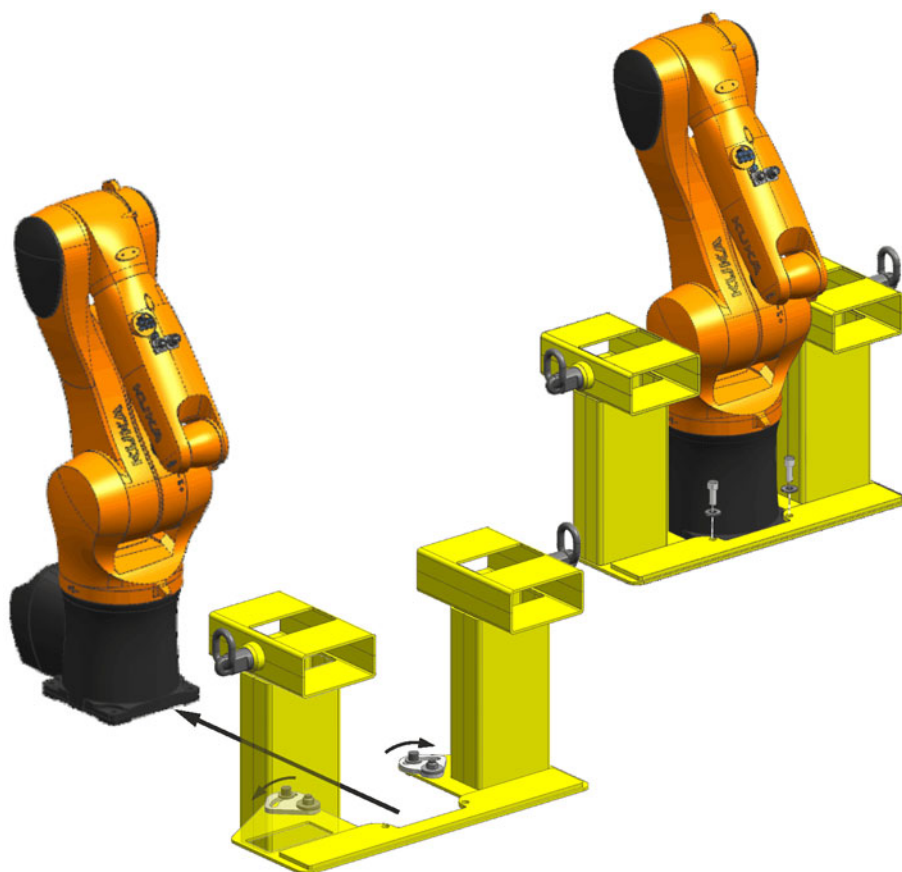

Fig. 6-2: Fastening the base frame of the Load Lifting Attachment (front of robot)
2. Carefully push the base frame of the Load Lifting Attachment onto the base frame of the robot from the front (>>> Fig. 6-2).